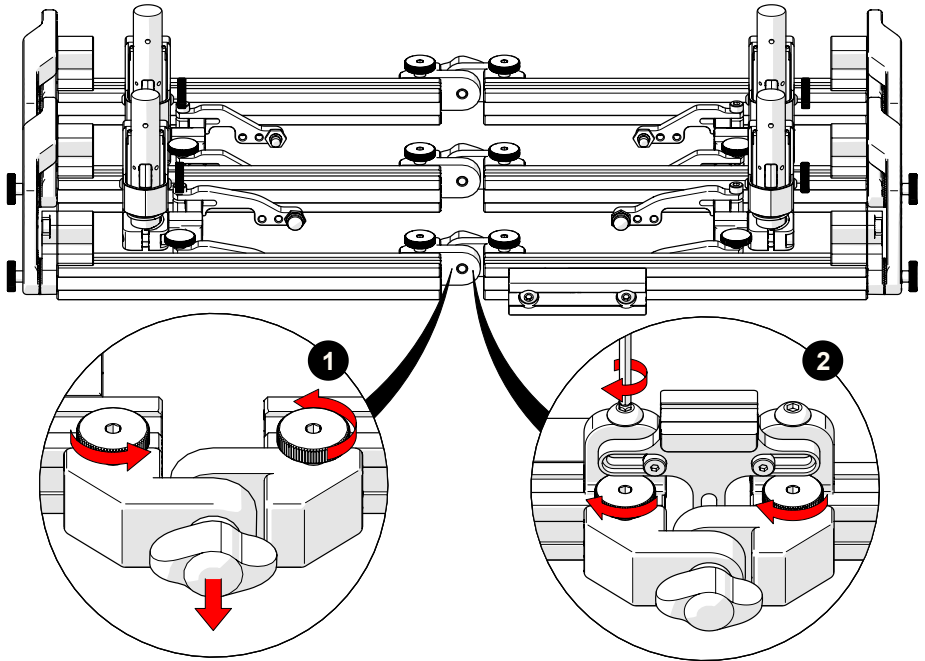

Fig. 274 - Optical guide pivot mount installation
1. Remove the dovetail bar pivot from one of the sets of **1** frame bars (Fig. 274). The choice of which dovetail bar pivot to remove is at the user’s discretion.
2. Attach the optical guide pivot mount to the **2** frame bars (Fig. 274), tighten the dovetail knobs and the dovetail screws. Ensure a flush alignment of the pivot mount and the frame bars to achieve proper centering of the optical guide pivot mount.